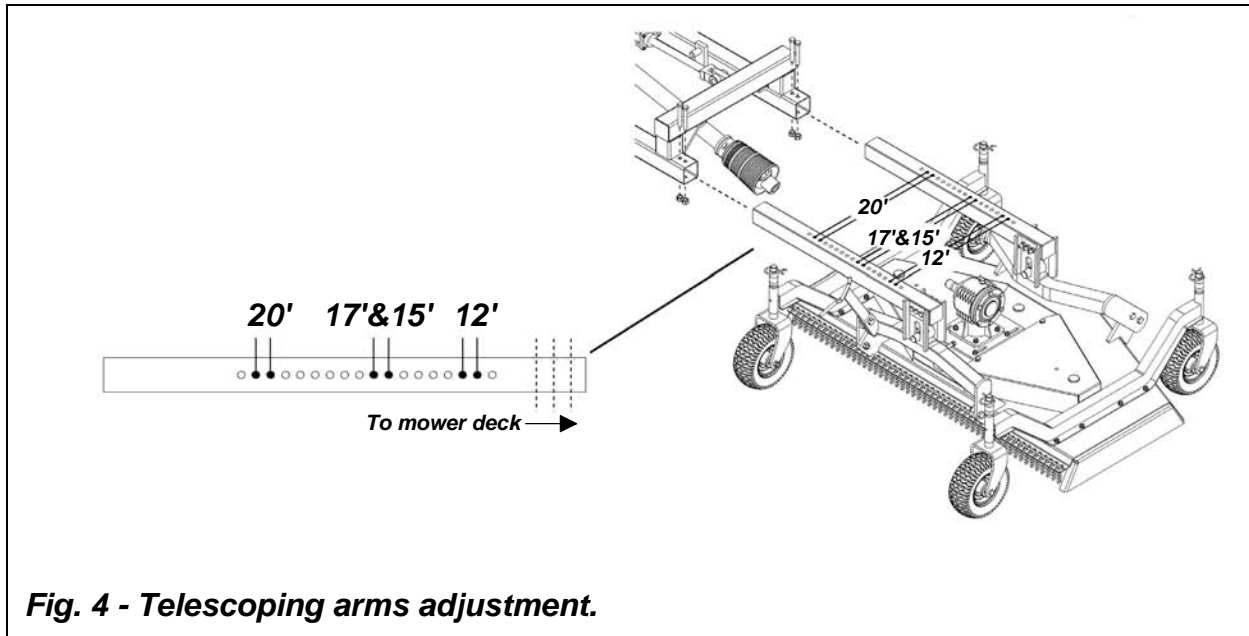

Fig. 4 - Telescoping arms adjustment.
10. Extend telescoping arms out to proper operating width. The proper operating width depends on the overall size of the mower (see fig. 4).